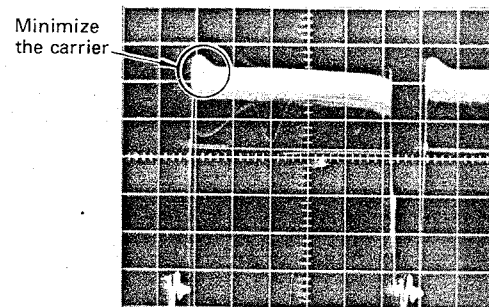

Fig. 6-4-12
- Adjust H. LINEARITY VR223 so that the carrier (3.58MHz) on the starting portion of Y signal at TP303 is minimum (Fig. 6-4-12), and the starting portion of Y signal becomes as flat as possible.